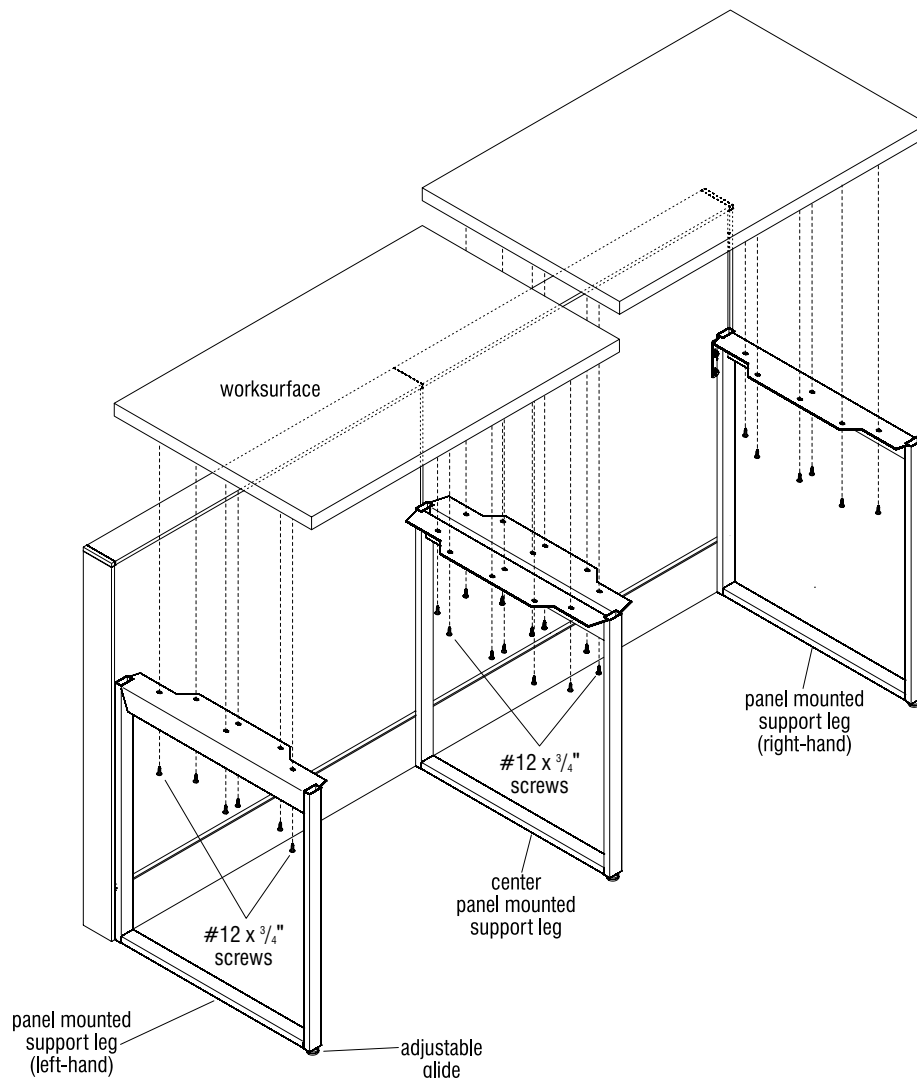

**Figure 19 - Panel Mounted Support Legs**
Three panel mounted support leg styles may be used per space-planning layout: right-hand, left-hand & center (Figure 19). Each installs to Legion panels in the same manner to provide worksurface support and can be used in place of panel returns to support panel runs. Tiles must be installed to properly installed panels before installing support legs.
1. Per space-planning layout, determine which (right, left & center) support legs are to install where along the run of panels and stage accordingly (Figure 19).
2. Screw the adjustable glide at the bottom, front end of the panel mounted support leg all of the way in to the bottom of the frame prior to installation (Figure 19).
3. Locate the lock bracket at the top of the support leg and loosen the two nuts, but do not remove them. Grip the lock bracket studs and raise the lock bracket. Install the support leg by inserting both the stationary teeth on the support leg and the lock bracket teeth into the slots in the vertical post of the Legion panel (Figure 19).
**Important:** Right- and left-hand support legs install to the panel slotting of the same panel as the worksurface. Center panel mounted support legs are installed such that the teeth engage the panel that is opposite the side with lock bracket nuts, thus centering the center support leg at the seam between panels (Figure 19).
4. With all teeth of the support leg set into the notches of the panel, and all support legs installed, adjust the glides downward to raise the leg and engage the upward facing teeth. Then grip both studs of the lock bracket and slide the lock bracket down until the teeth are fully seated against the panel slot faces. Ensure that both the upward facing stationary teeth and the downward facing lock bracket teeth are tight against the slot faces in both the up and down directions. Tighten the lock bracket nuts to secure the support leg to the panel (Figure 19, Details D & E).